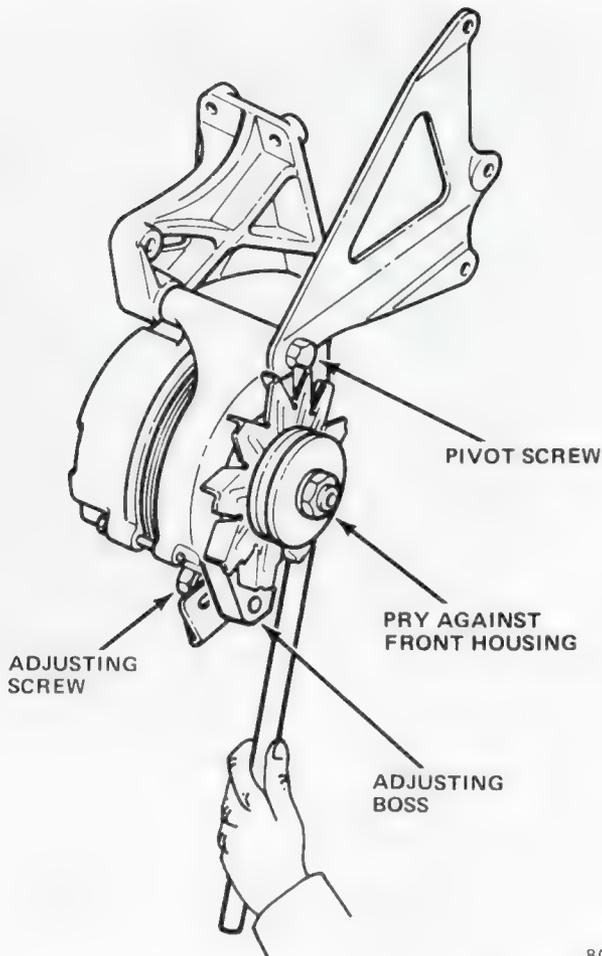

Fig. 1C-13 Alternator Adjustment—Four-Cylinder
- (1) Loosen alternator pivot screw and adjusting screw (fig. 1C-13).